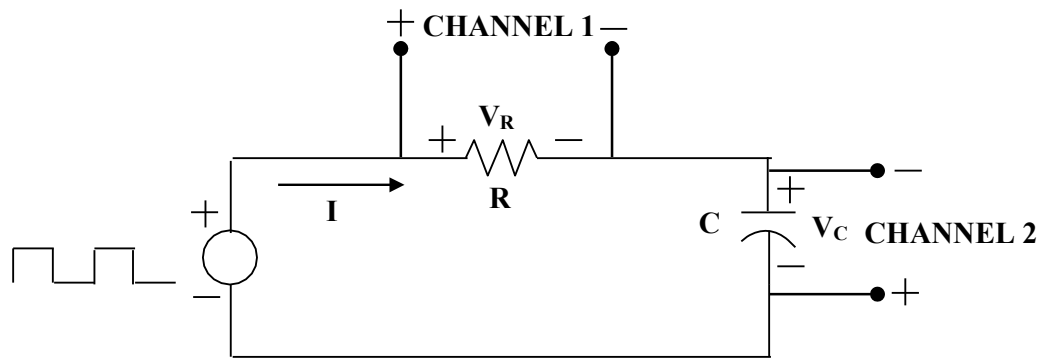

Fig.2
4. Disconnect Ch.1 and Ch.2 and reconnect them as shown in Figure 2.